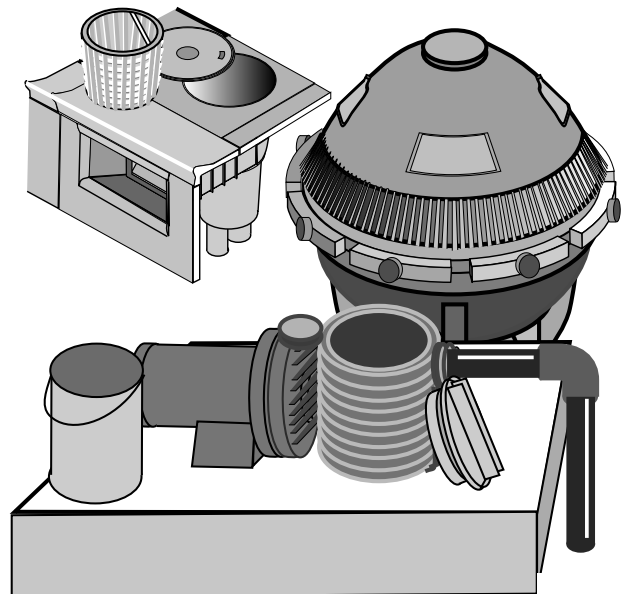

Figure 4
Step 4: Clean filter system (Figure 4)